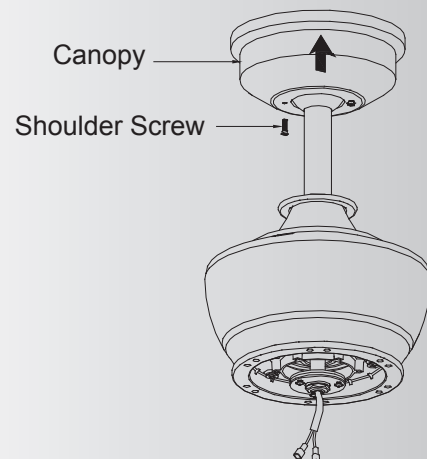

Fig. 15
**Step 2.** Assemble canopy by rotating key slot in canopy over shoulder screw in mounting bracket. Tighten shoulder screw. Fully assembled and tighten second shoulder screw that was previously removed. (Fig. 15)